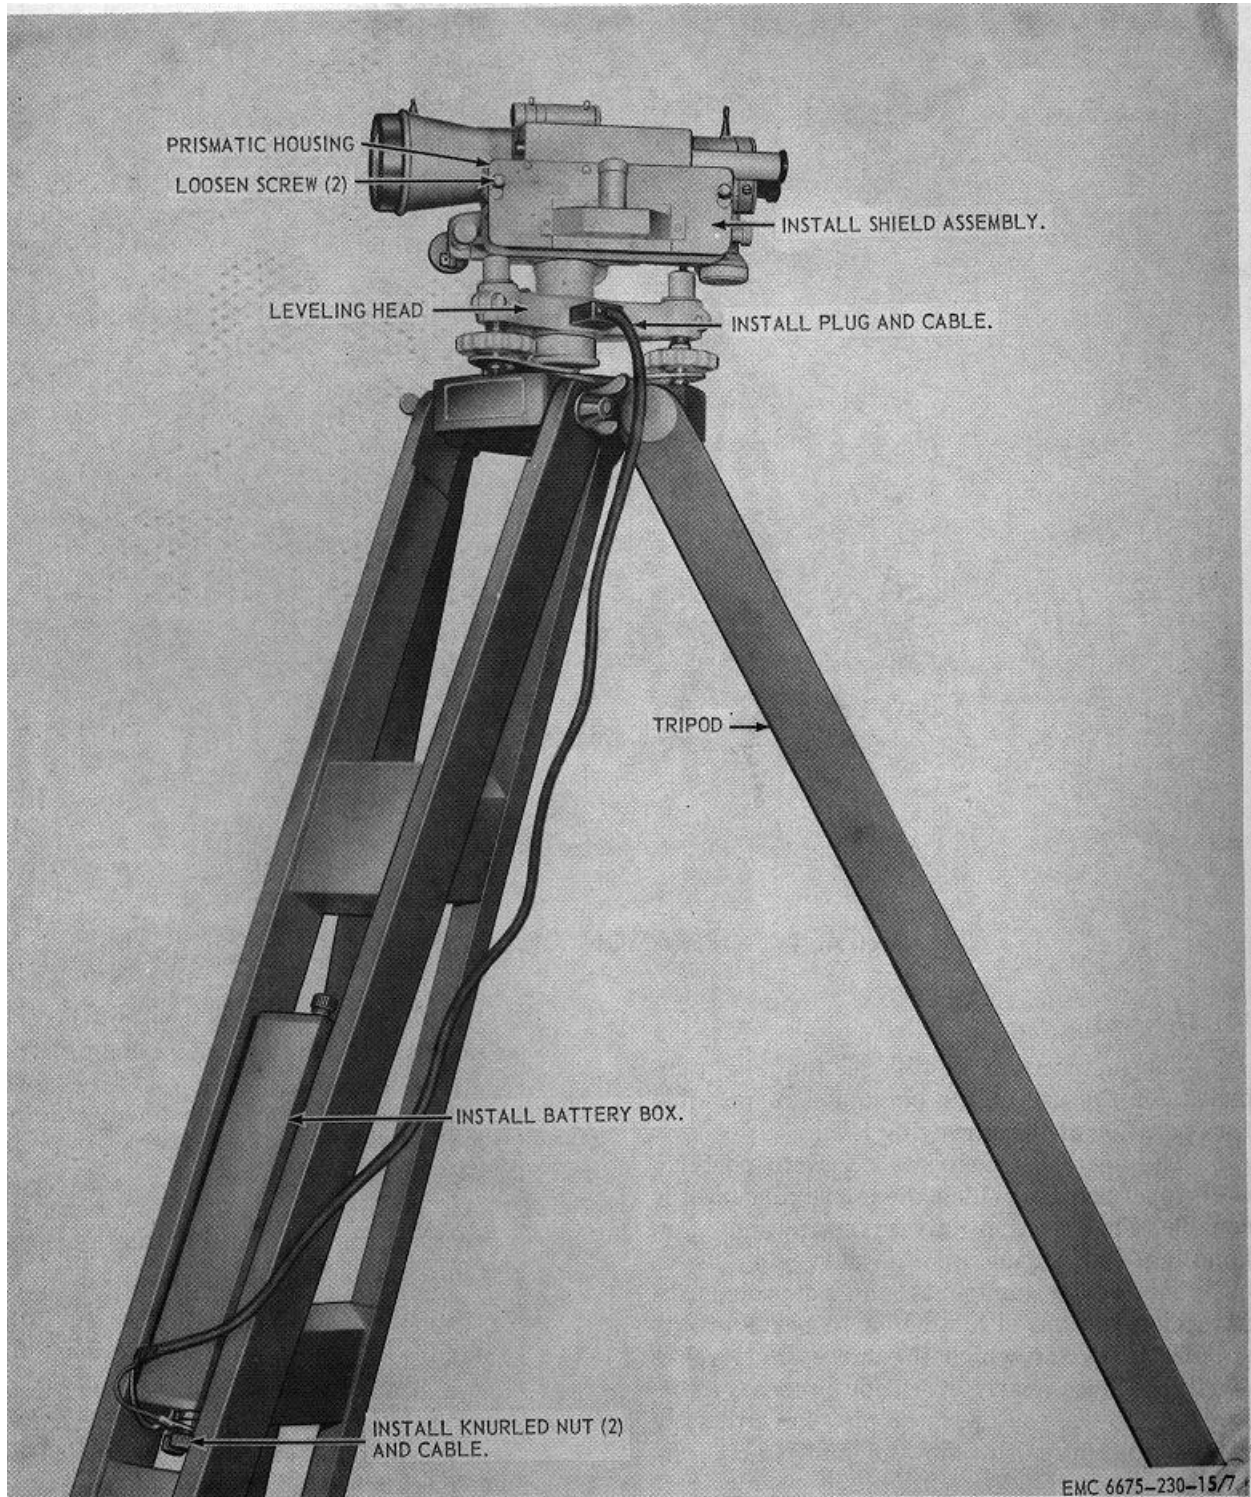
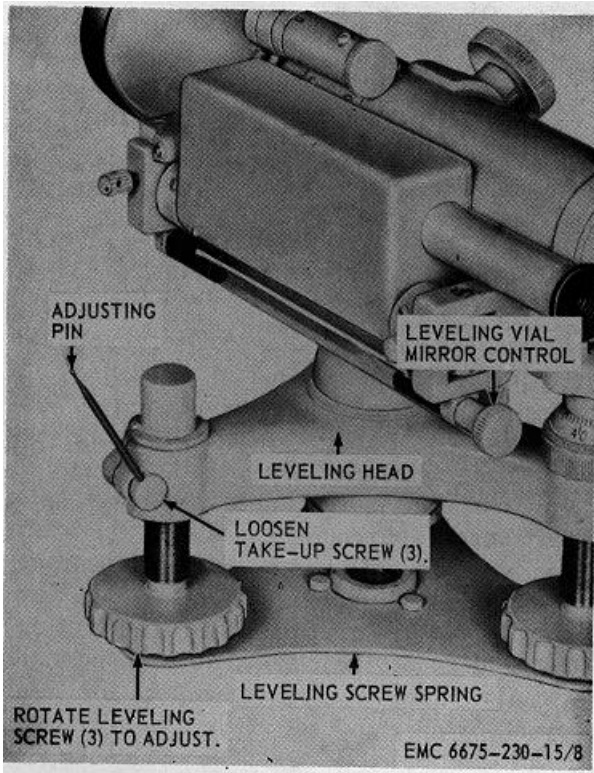

Figure 7. Illumination system, installation and removal.
Figure 8. Leveling screw, adjustment.
- (1) Set up the tripod as outlined in paragraph 9.
- (2) Install the surveying level on the tripod as outlined in paragraph 9.
- (3) If the unit is to be used for night operation, install the illumination system as shown in figure 7.
- (4) Adjust the leveling screw as follows:
- (a) Observe the circular level (fig. 6) and adjust the leveling screws (fig. 8) until the bubble of the circular level is centered within the black circle.